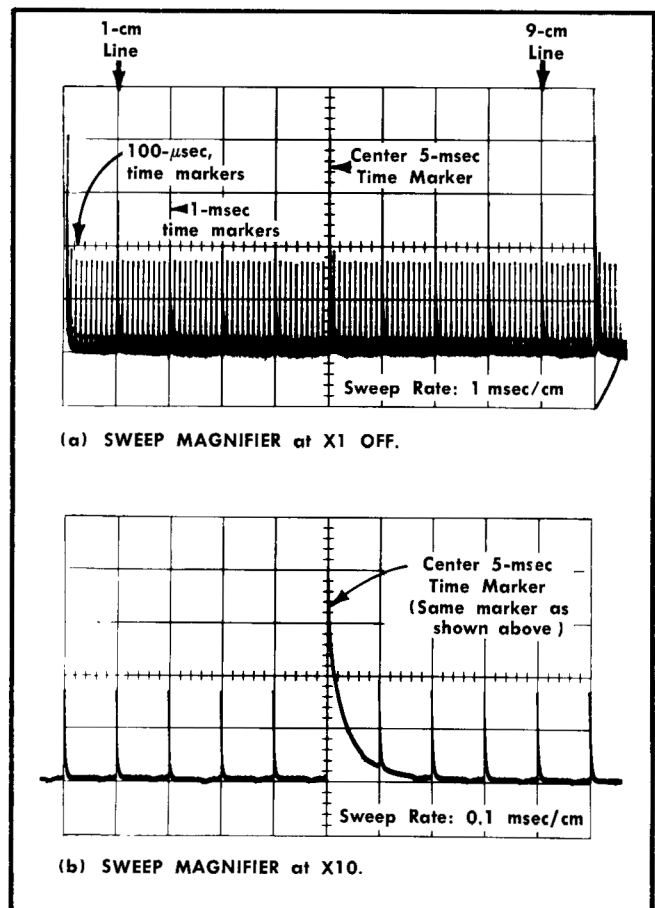

Fig. 5-6. Time marker displays.
- f. Set the HORIZONTAL DISPLAY switch to X10. Position the center 5-msec time marker to graticule center (see Fig. 5-6).